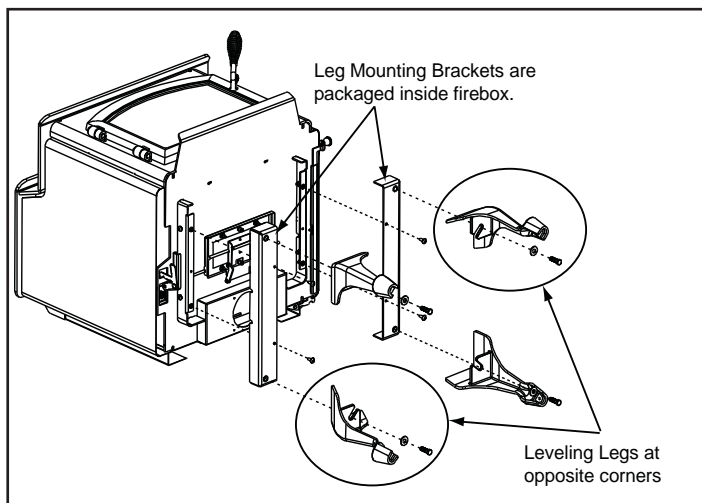

Figure 24.1
3. Loosely assemble bolts into the corner of the mounting brackets for leg attachment. **Figure 24.1.** (page 24)
4. Slide legs onto mounting brackets making sure the legs are up against the bracket and secure with bolts supplied. There are leveling bolts in 2 legs. These leveling legs should be in opposite corners. **Figure 24.1.** (page 24)